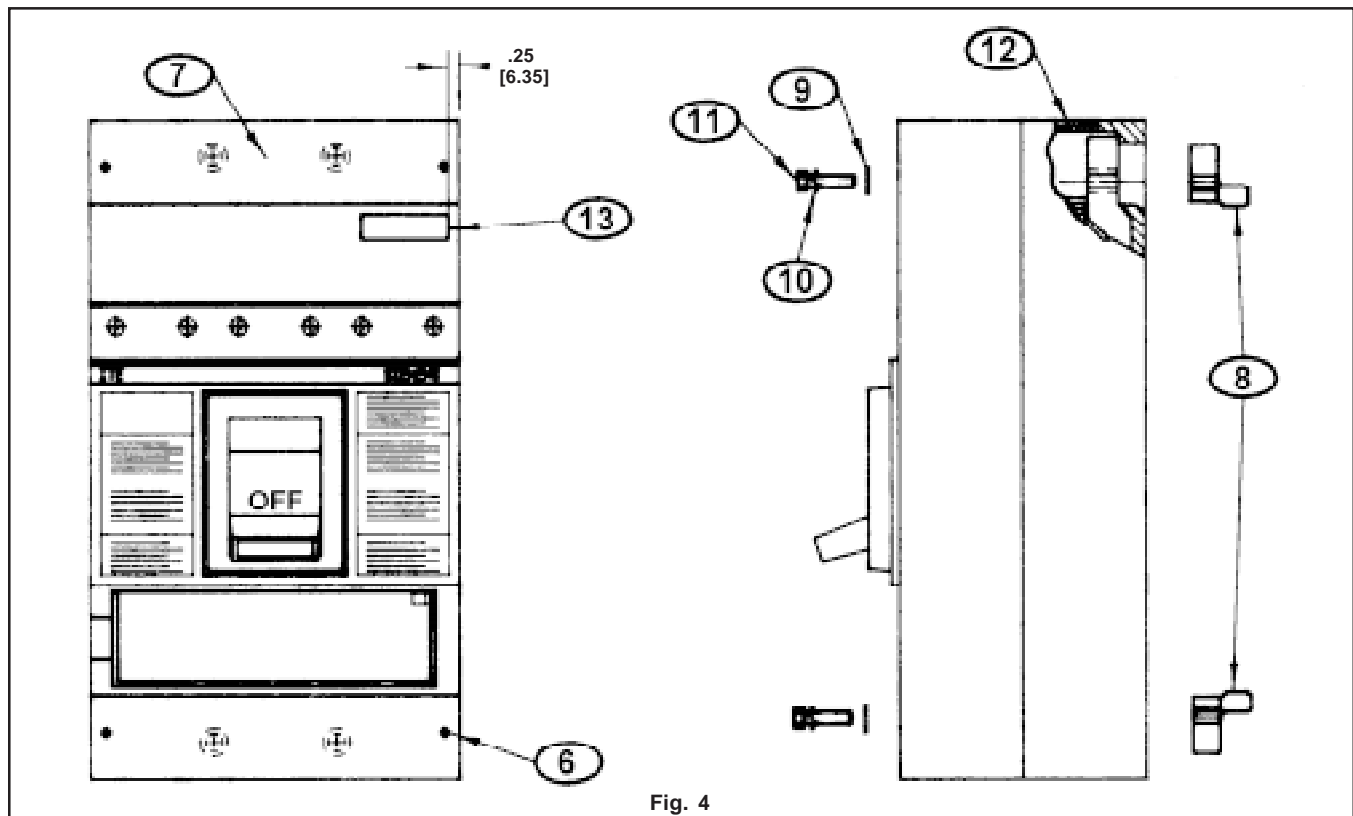

Fig. 4
## BREAKER PREPARATION: Fig. 4
6. Loosen four breaker terminal shields screws (6) and remove both line and load side terminal shields (7).
7. Place terminal stabs (8) on back of breaker in recess provided in base molding. Secure in place with 5/16-18 hex head bolts (11)
8. **INSERT END SHIELDS (12) INTO SLOTS PROVIDED AT LINE AND LOAD END OF BREAKER.**
9. Affix label (13) to front of circuit breaker as shown in Fig. 4.